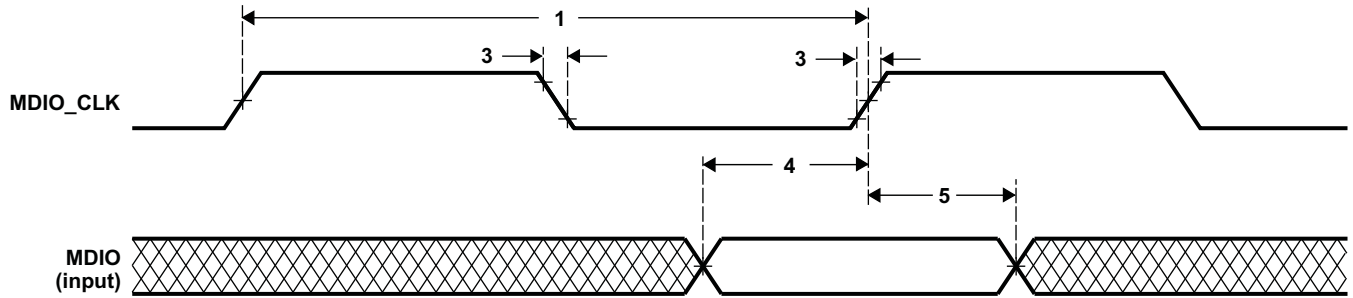
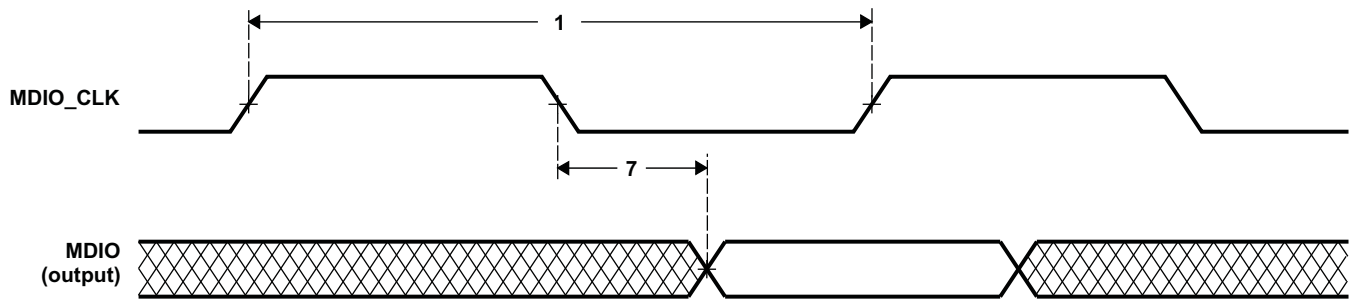

Figure 5-32. MDIO Input Timing
Figure 5-33. MDIO Output Timing
**Table 5-39. Timing Requirements for MDIO Input(1) (see Figure 5-32 and Figure 5-33)**
(see Figure 5-33)